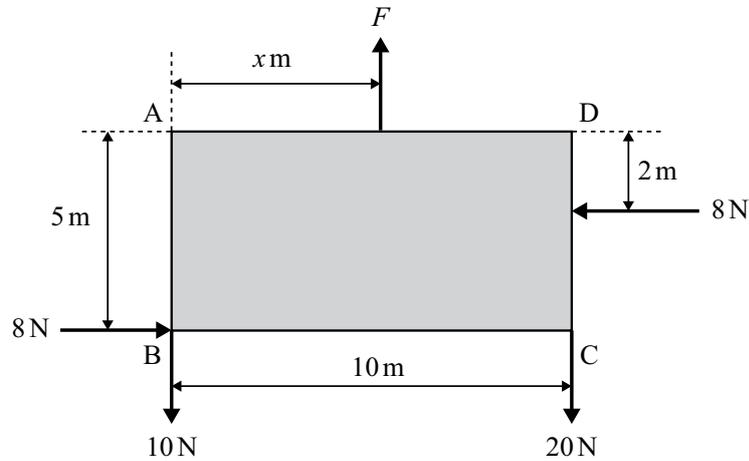

Fig. 6
- (b) Fig. 6 shows a rectangular plate ABCD subjected to five forces acting perpendicular to its sides. Force F acts at a distance of x m to the right of corner A.